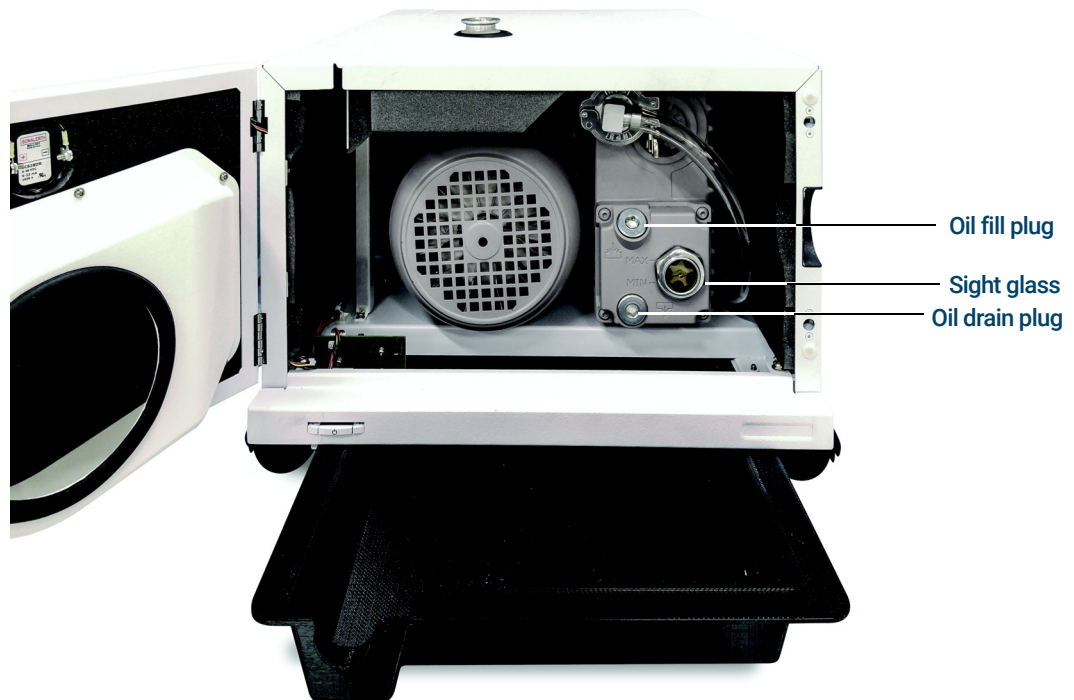

Figure 11. View of pump through access door
- 9 Remove the oil drain plug from your rough pump (**Figure 11**). Refer to your pump documentation.